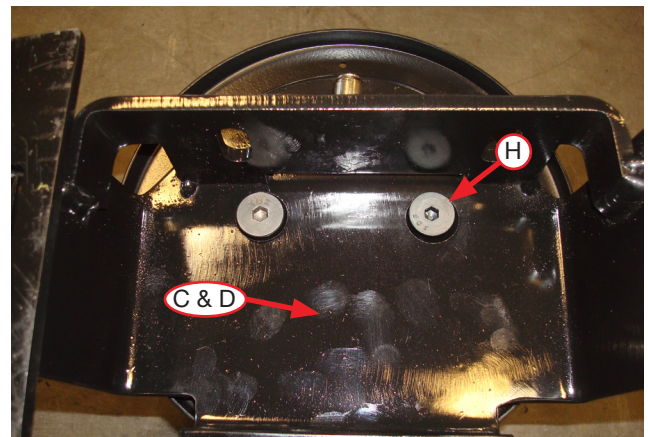

Fig. 10
2. Install both upper brackets (C & D) onto the air spring assemblies using the 3/8" flat head screws (H) (Fig. 10). Torque hardware to no more than 20 lb.-ft. (27Nm).